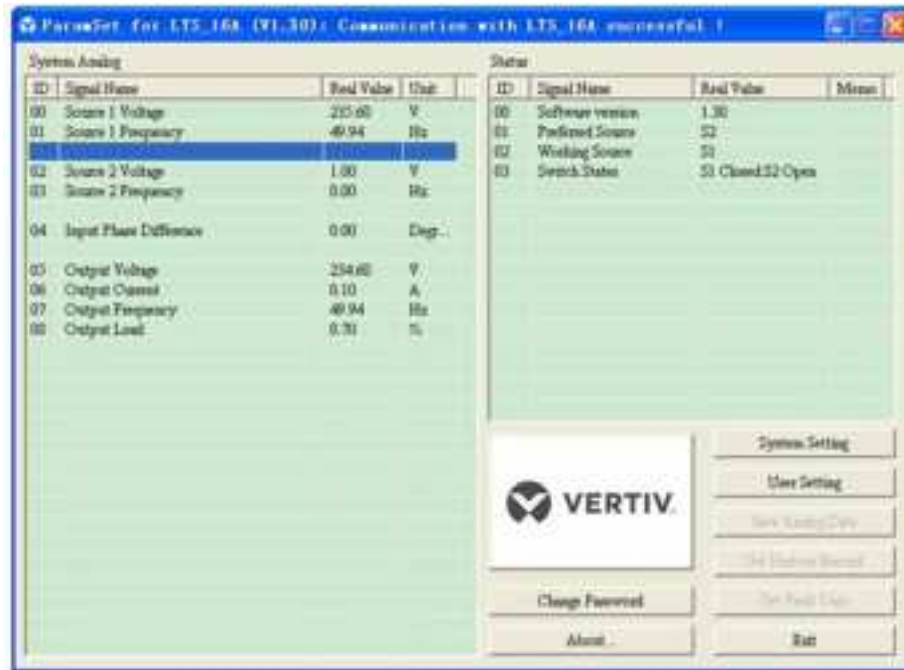
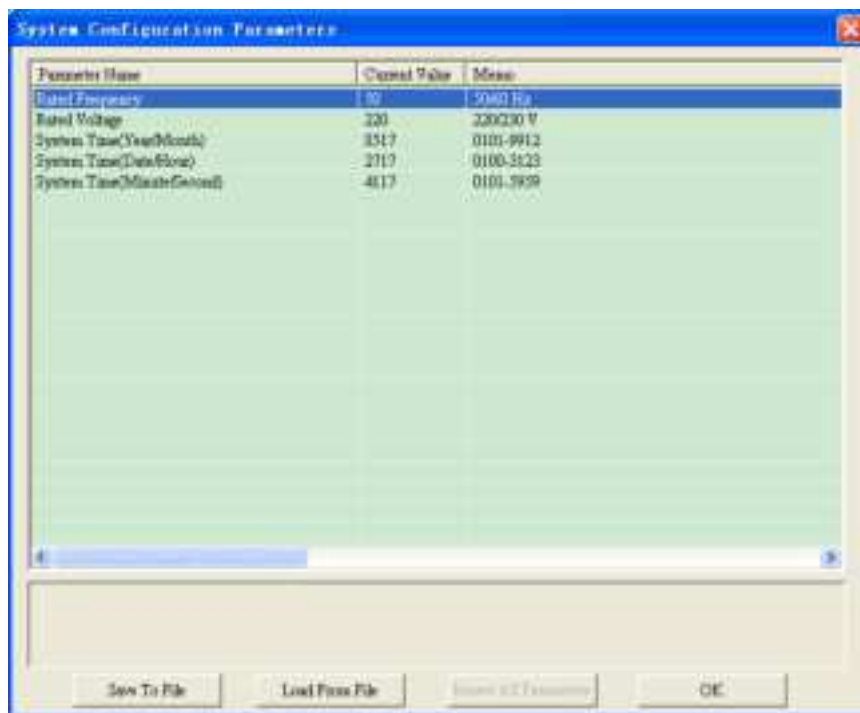

Figure 3-1 System setting interface
Figure 3-3 **System Configuration Parameters** interface
3. Double-click the **ParamSet.exe** file of the configuration software in the accessory CD, and the system setting interface appears on the computer screen, as shown in Figure 3-1.
- 2) Input the old password, and the new password twice. Click the **OK** button, and the system setting interface shown in Figure 3-1 returns.
In the interface shown in Figure 3-1, click the **System Setting** button, and you will access the interface for changing the settings of parameters 1 to 3 in Table 3-1; click the **User Setting** button, and you will access the interface for changing the settings of other parameters in Table 3-1. The parameter setting ranges and defaults are listed in Table 3-1. The procedures for changing all parameter settings are the same, specifically:
- 1) Click the **System Setting** button in the interface shown in Figure 3-1, and the **System Configuration Parameters** interface appears, as shown in Figure 3-3.